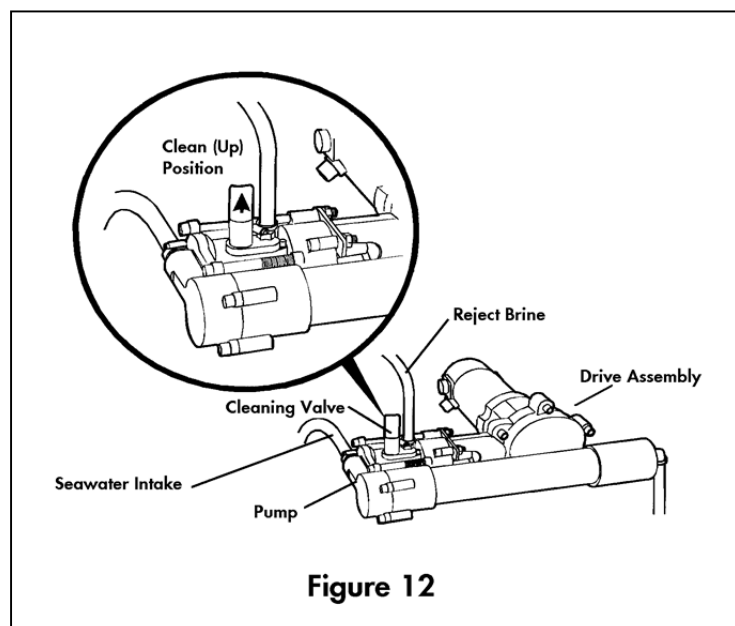

Figure 12
1. Lift the lever on the cleaning valve on the pump to place it in its "clean" or "up" position (see **Figure 12**).